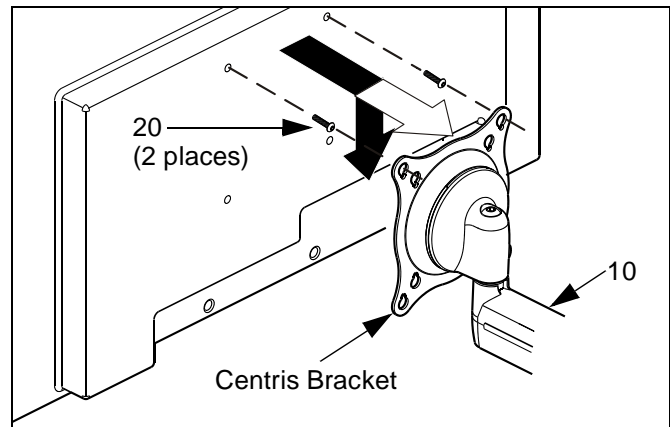

Figure 3: Display Installation - Flush Mount
2. Using Phillips screwdriver, carefully install two screws (20) into the *upper* mounting holes on the display. Thread screws completely into display, then back out 3 complete turns.
3. Pick up and align display so that screws (20) (installed on the back of the display in the previous step) fit into the *upper* mounting holes on the Centris bracket; rotate the bracket as required (See Figure 3). Lower the display firmly into place.